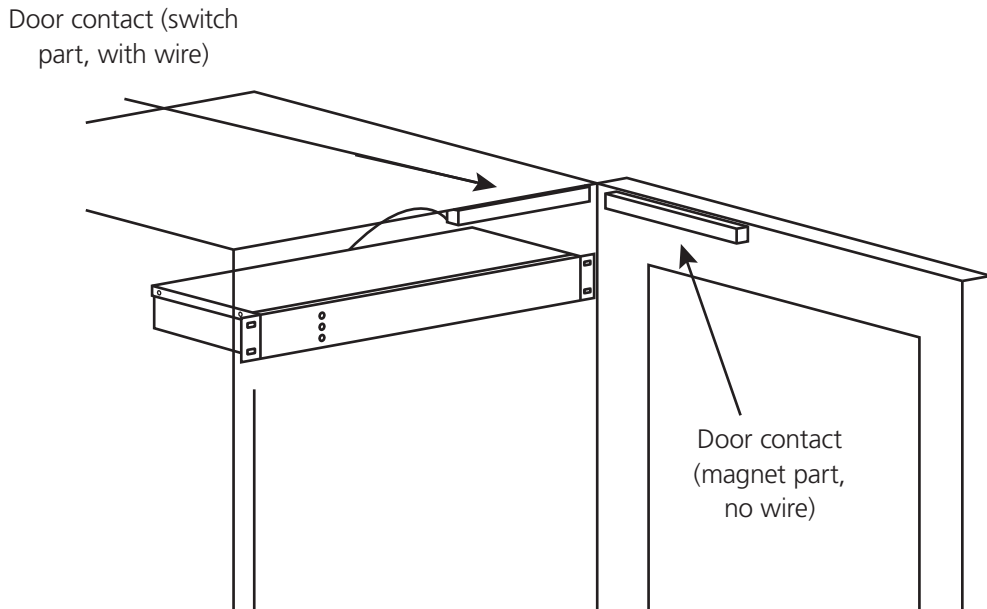

Figure 19. Using a door contact.
- To use one of the Door Contacts, follow the example shown in Figure 19. The example connects to Pins 9 & 10, an additional Door Contact can be connected to Pins 11 & 12.